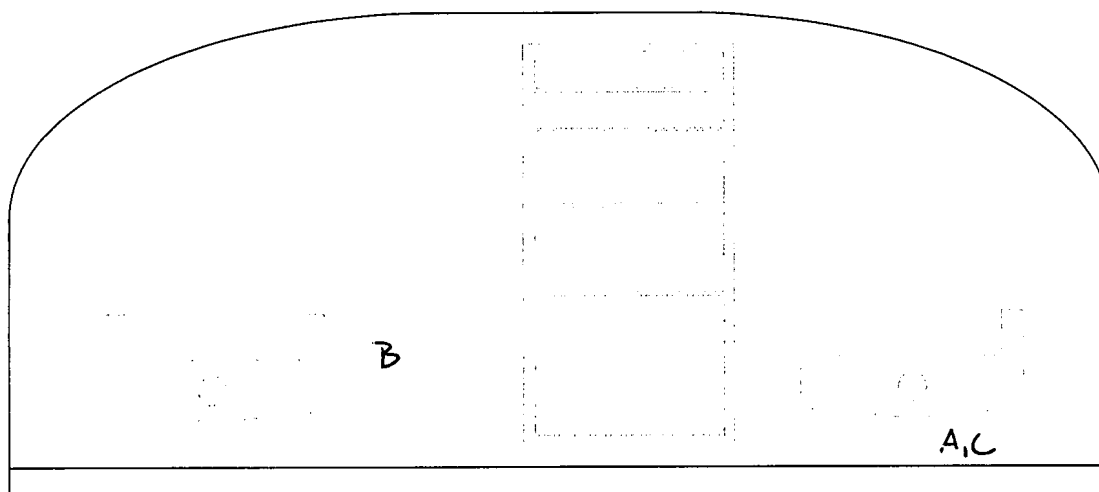

Figure D3 – Circuit Breaker and Switch Locations
2. Draw in the circuit breaker and switch locations on instrument panel (Figure D3).